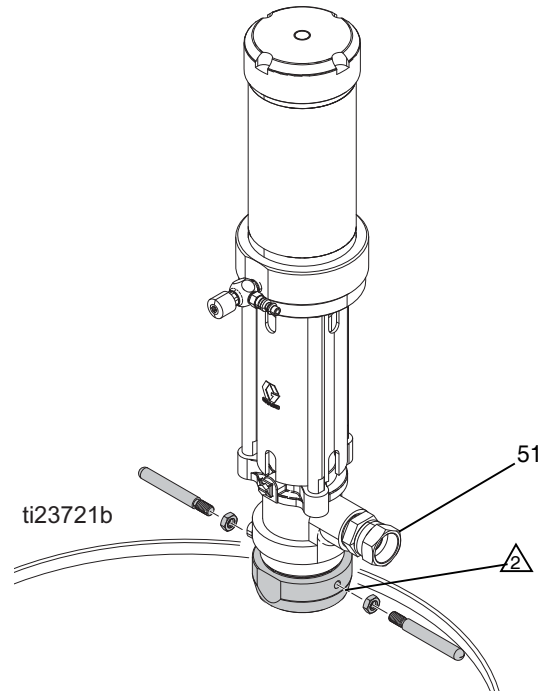

FIG. 7
4. Lubricate the bung adapter inside diameter and mounting threads. Install supplied handles and tighten the jam nuts. Install supplied handles and tighten the jam nuts. Ensure the gasket is in place and screw the bung adapter (51) securely into the bunghole of the drum. Insert the pump through the adapter and lock it in place. See FIG. 7.